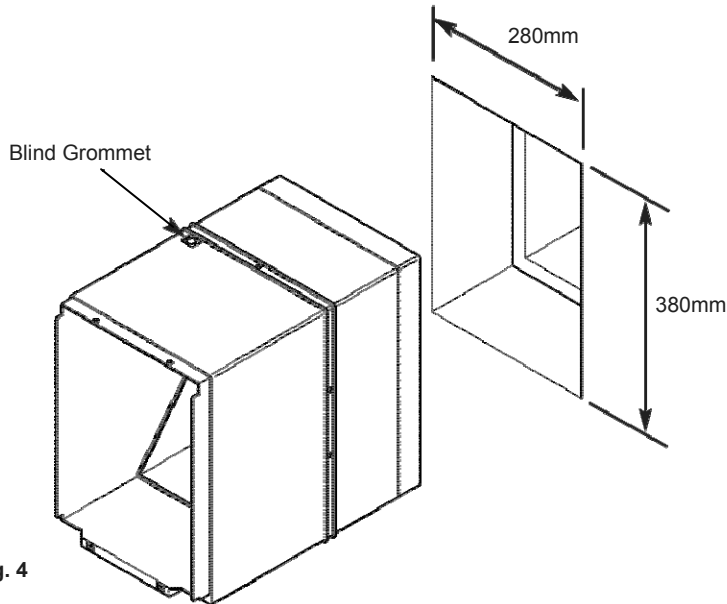

Fig. 4
1. Slide the unit into the mounting hole and ensure that the minimum overhang requirements are achieved inside and out (Fig. 4).